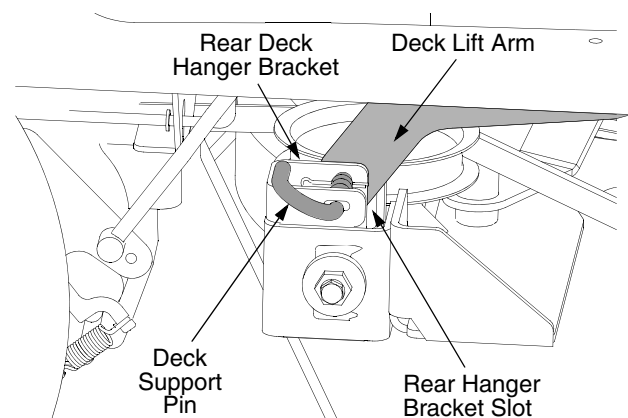

Figure 31
5. Locate the LH and RH deck support pins on each side of the deck. Pull the deck support pins outward and lock in the disengaged position to release the deck from the tractor's LH and RH deck lift arms. See Figure 31.
4. Maneuver the deck so that the slots in the two rear deck hanger brackets approximately align with the deck lift arms of the tractor. Refer to Figure 31.
6. Pull the deck support pins outward and maneuver the deck as necessary to align the holes in the deck lift arm with the pins. Refer to Figure 31.